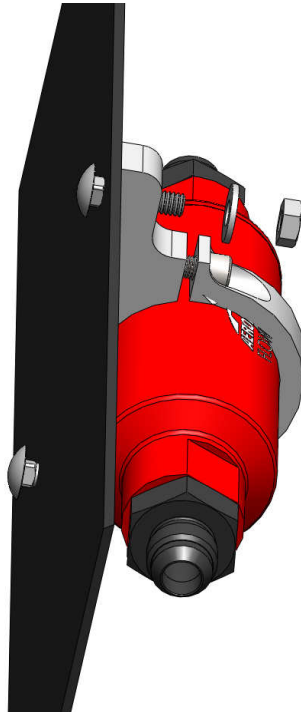

FIGURE 1-1
- 1-4. Once the OEM fuel tank has been removed, remove the plastic fuel tank shield from the bottom of the tank. Before transferring the shield to the new Aeromotive tank, attach the 12305 filter bracket to the front side of the shield with the two supplied carriage bolts, nuts and washers (bracket will be placed facing the rear differential cover) **FIGURE 1-1**. Insert the 12301 filter into the bracket and tighten the socket head cap screw to secure the filter. Screw the two 15610 fittings with o-rings on the ORB-10 port side into each end of the filter.